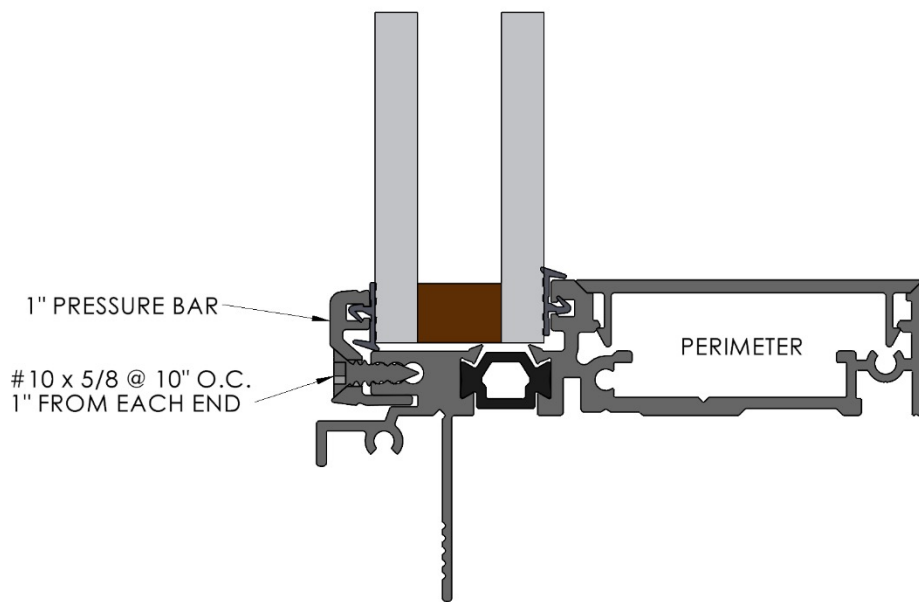
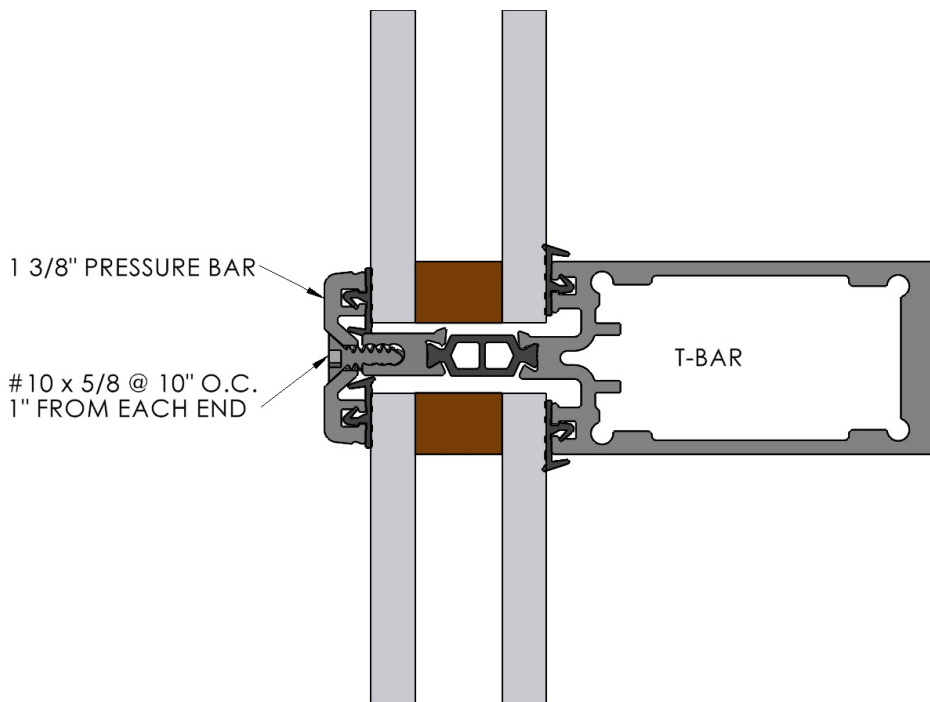

Figure 21
Figure 22
16. Locate the correct pressure bar for each edge. Each pressure bar should be approximately 1.5" shorter than the each of the IG unit. The perimeter pressure bars have a lip that inserts into the perimeter frame and a single weather strip. (See Figure 21). The vertical and horizontal T-bars have two weather strips. (See Figure 22).